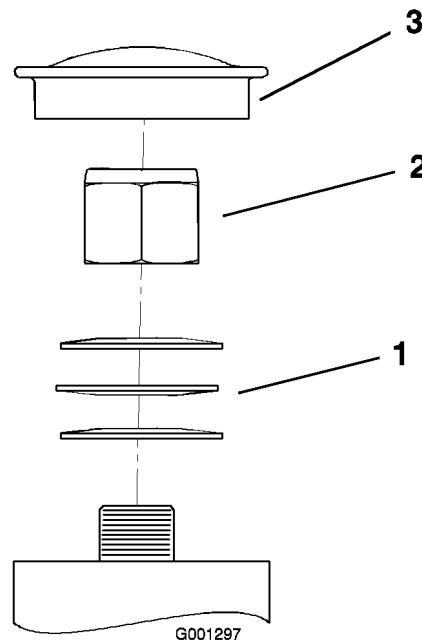

Figure 51
3. Remove the dust cap from caster and tighten lock nut (Figure 51).
4. Tighten the locknut until the spring washers are flat and then back off a 1/4 turn to properly set the pre-load on the bearings (Figure 51).
- Important:** Make sure spring washers are installed correctly as shown in Figure 51.
5. Install the dust cap (Figure 51).